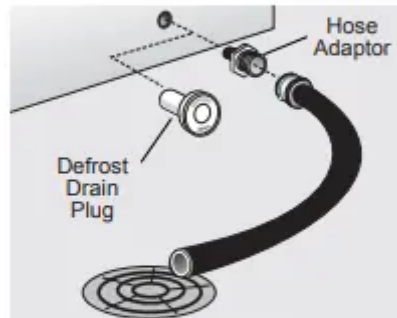

**Figure 1D**
- Place a shallow pan under the drain tube. Defrost water will drain out. Check pan occasionally so water does not overflow. A ½ inch garden hose adapter can be used to drain the freezer directly into a floor drain. If your model is not equipped with an adapter, one can be purchased at most hardware stores (see figure 1D). Replace the drain plug when defrosting and cleaning are completed. If the drain is left open, warm air may enter freezer.